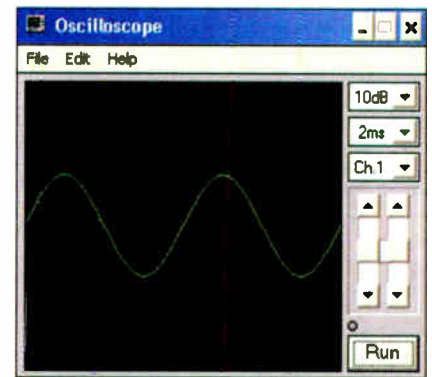

Fig.7.23. The 1kHz output of the signal generator displayed using the virtual oscilloscope tool
3. Click on the oscilloscope icon to start the oscilloscope tool and set the controls to 10dB (vertical attenuator), 2ms (timebase), and Channel 1 (you may also need to adjust the slider control (vertical position) in order to obtain a trace that is vertically centred on the display). Click on "Run" in order to display the waveform (you can click this button a second time in order to "freeze" the display). The waveform displayed should now be similar to that shown in Fig.7.23.
Fig.7.24. Spectrum analyser tool settings required to display the frequency spectrum of the 1kHz sine wave shown in Fig.7.23. Note the single frequency that is present (1kHz) and the "noise" floor that is evenly distributed in frequency